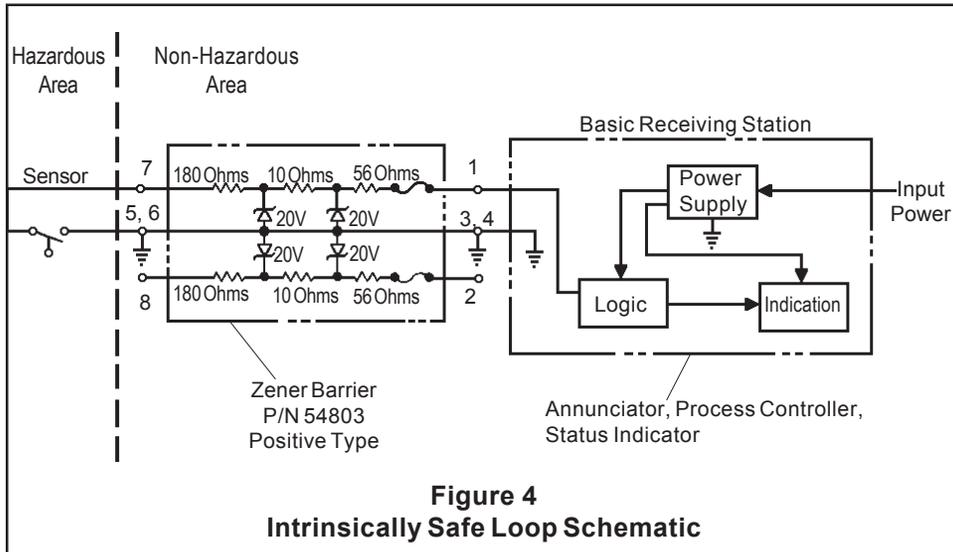

Figure 4
C. Test Performance (See Figure 4)